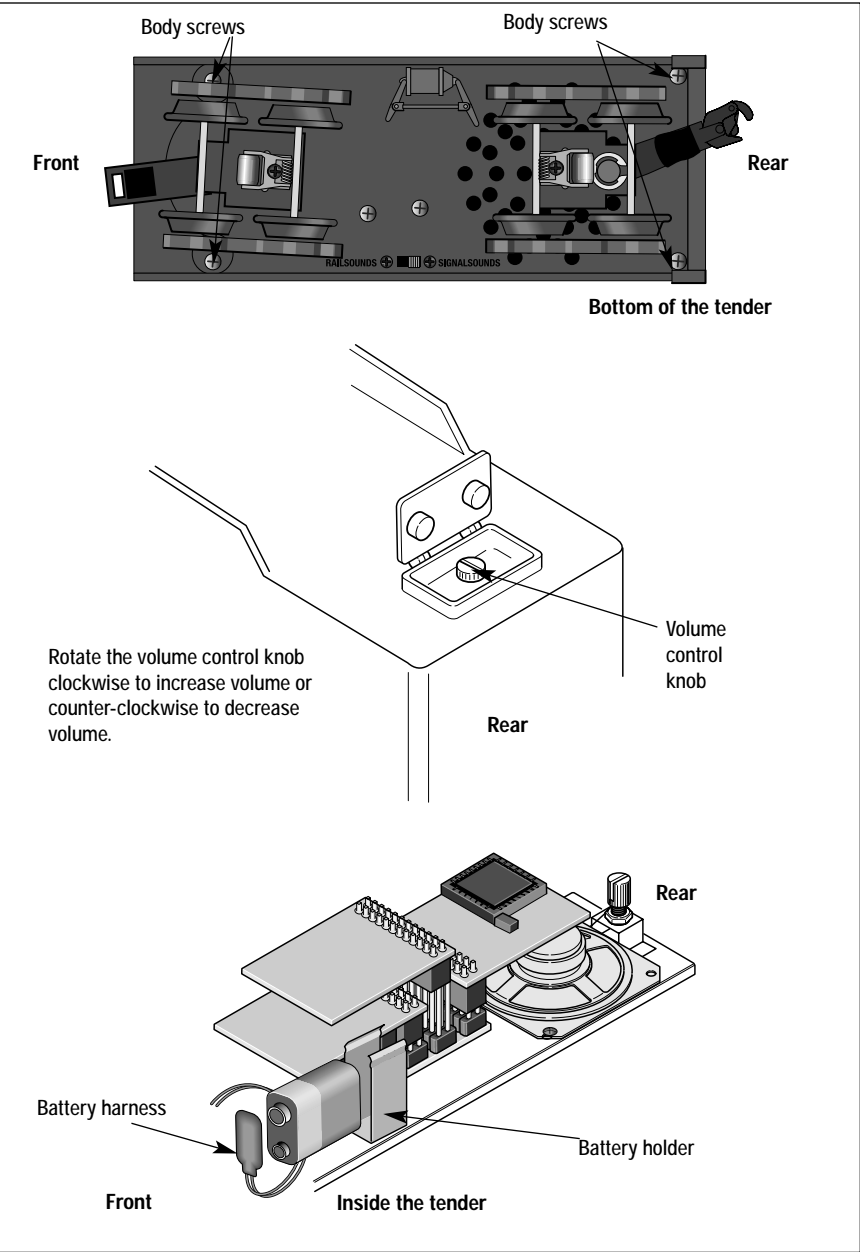

Figure 4. RailSounds sound system controls and battery installation
Begin by installing a nine-volt *alkaline* battery in the tender as illustrated in Figure 4 on page 9. This ensures interruption-free operation of the RailSounds sound system. The battery harness is located inside the tender. To access the battery harness, you must first remove the body screws from the bottom of the tender and then lift off the top of the tender. Refer to the Figure 4 on page 9 for the location of the body screws. Snap the battery harness onto the battery terminals, then slide the battery into the holder and replace the tender body, securing it with the body screws.
To silence the steam chuffing sound (whistle/bell are unaffected), slide the RailSounds sound system switch, located on the underside of the tender (see Figure 4 on page 9 for the location), to the SIGNALSOUNDS position *before powering up the locomotive*. The whistle and bell are activated by using the lever or button on your transformer or CAB-1 Remote Controller. The volume control knob is located under the water hatch on top of the tender (see Figure 4 on page 9).
- Use the volume control knob to adjust sound output. Refer to Figure 4 on page 9. Use a flat-blade screwdriver to adjust the volume level.